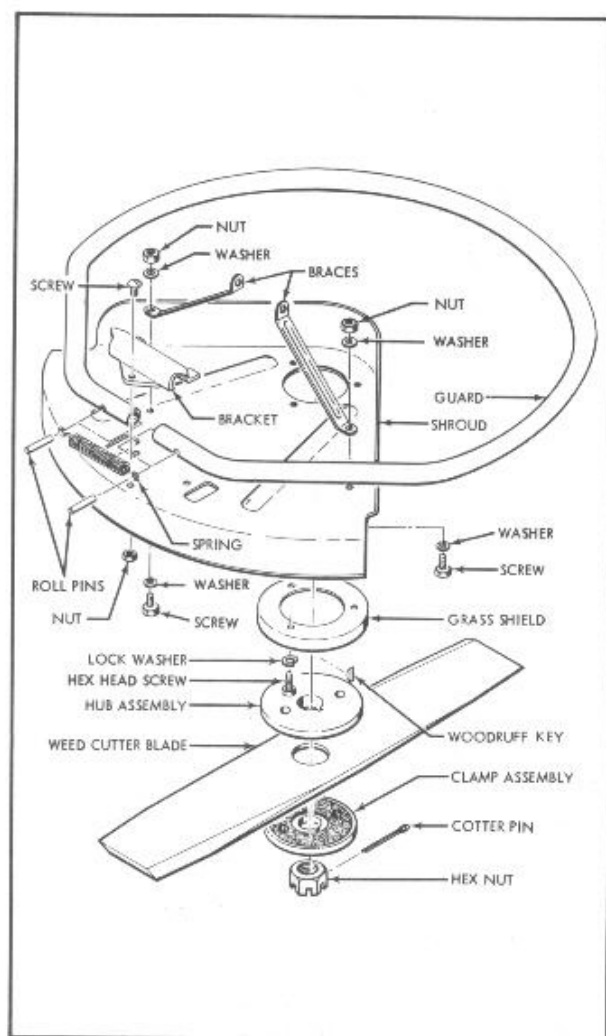

Figure 14. Installation of Weed Cutter Kit 57630
1. Assemble the Shroud Assembly onto the Guard Assembly with the Bracket, three 10-24 x 3/8-inch long screws (P/N 100415), and three 10-24 hex nuts (P/N 101191). (See Figure 14.) Place the assembled parts on the gear housing drive shaft.
3. Mount the two Shroud Braces on the Shroud Assembly with two 1/4-20 x 1/2-inch long screws (P/N 100474), four plain washers (P/N 100005), and two 1/4-20 hex nuts (P/N 103242). See Figure 14. Attach the Shroud Braces to the flanged clamp on the gear housing by utilizing the screw and nut already on the clamp.